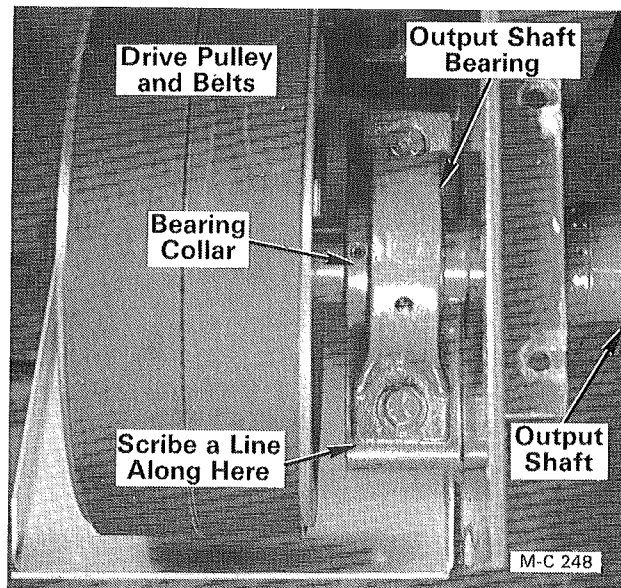

Figure 4
9. Scribe a line on the output shaft bearing mounting bracket as shown in Figure 4 to establish the location of the bearing for reassembly.
5. Align the edge of the output shaft bearing with the mark scribed on the mounting bracket made in step 9 of disassembly, see Figure 4. Tighten the output shaft bearing capscrews and two set screws in the bearing lock collar.